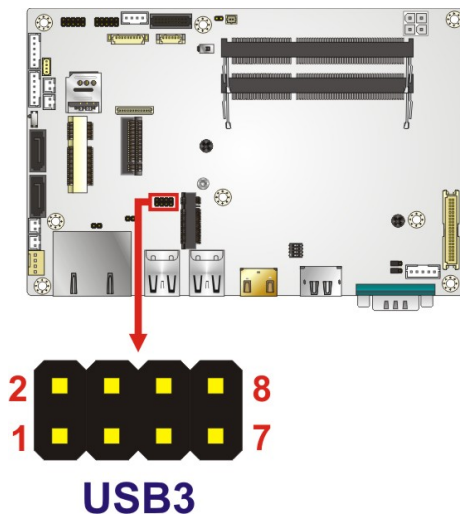

Figure 3-26: USB Connector Location
- CN Location:** See **Figure 3-26**